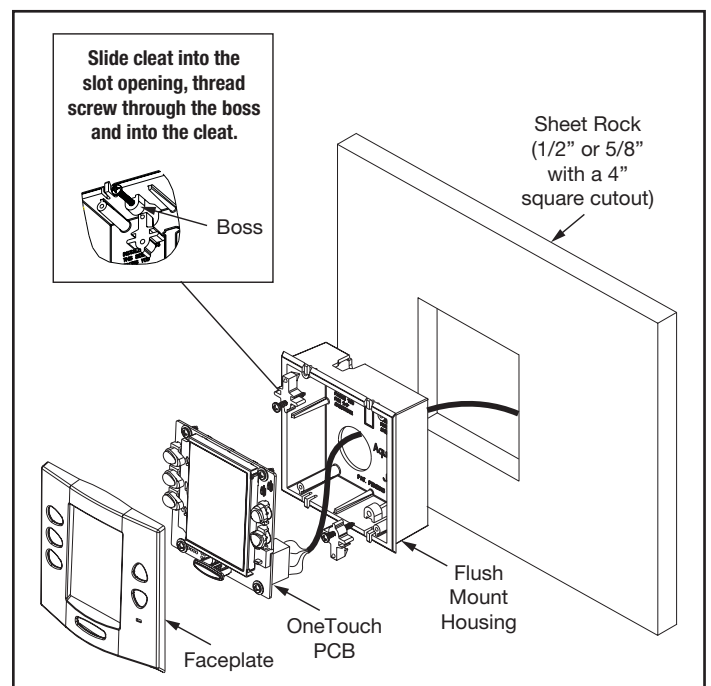

Figure 26. OneTouch Flush Mount Installation
4. Pull the 4-conductor cable through the hole in the wall and the hole in the flush mount box. Push the flush mount box into the hole in the wall with the correct orientation (see Figure 26).
6. Insert a screw through the screw boss (see Figure 26). Put a cleat into the top "U" shaped hole. Hand tighten the screw and repeat the process for the bottom cleat.